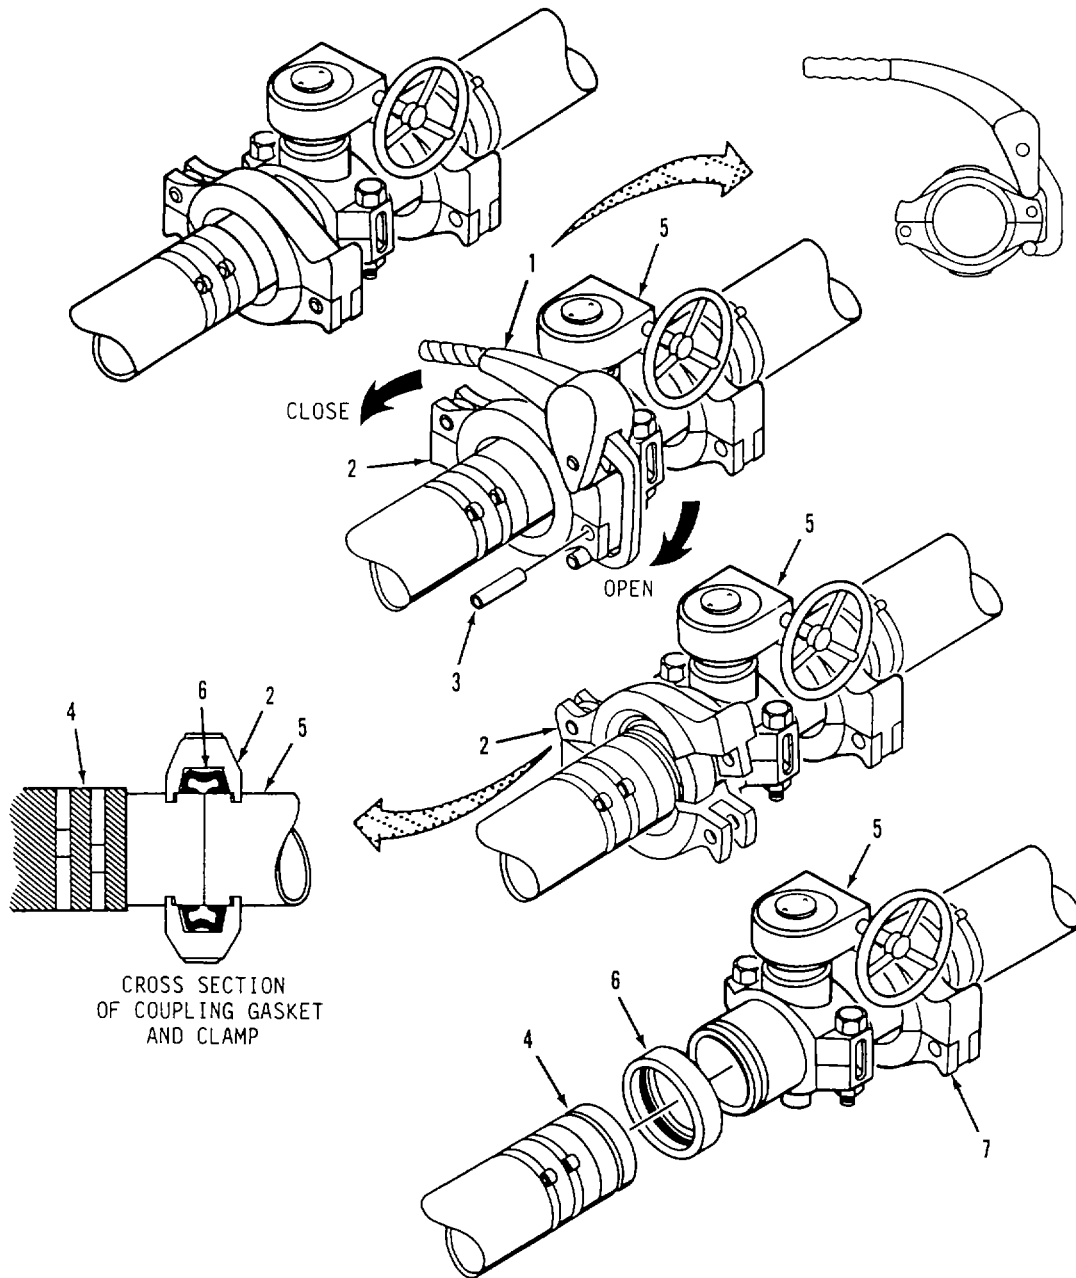

Figure 3-5. Coupling Clamp Component Installation.
b. Installation. Refer to figure 3-5.
- (1) Position replacement butterfly valve (5) in water system.
- (2) Apply a thin, even coating of lubricant to coupling gasket (6).
- (3) Slide gasket (6) over end of coupling on hose (4).
- (4) Align and mate ends of couplings on hose (4) and butterfly valve (5).
- (5) Slide coupling gasket (6) over ends of couplings on hose (4) and butterfly valve (5) Make sure gasket is positioned as shown.
- (6) Position one half of coupling clamp (2) over coupling gasket (6) and into grooves of couplings on hose (4) and butterfly valve (5).
- (7) Close other half of coupling clamp (2) over coupling gasket (6) while aligning clamp with grooves of couplings on hose (4) and butterfly valve (5) . Hold clamp in position.
- (8) Place assembly tool (1) on coupling clamp (2) . Move handle to closed position. As clamp is squeezed together, make sure coupling gasket (6) is not pinched under clamp. Assembly tool will lock in closed position when clamp is correctly seated.